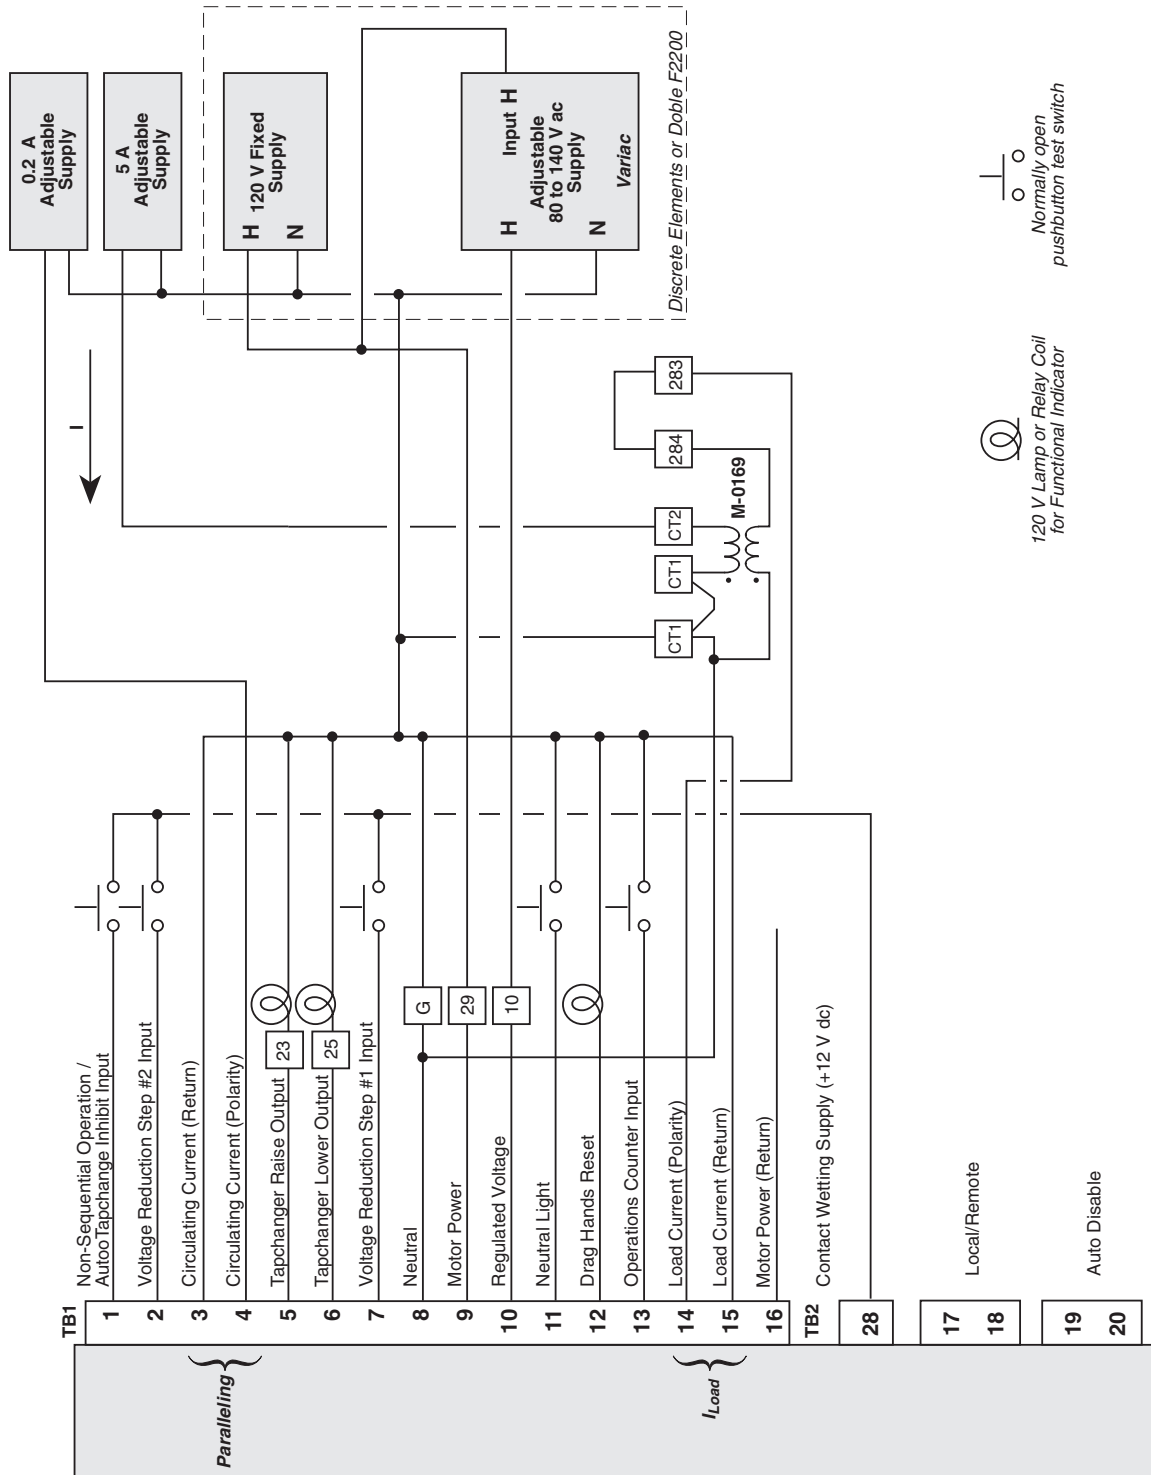

Figure 10 M-2354C Test Procedure External Connection
1. Make electrical connections as shown in Figure 10, M-2354C Test Procedure External Connections.